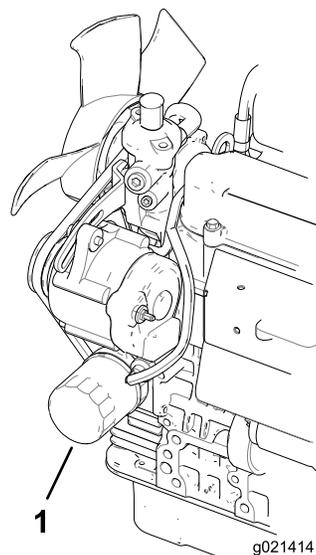

Figure 49
2. Remove the oil filter (Figure 49). Apply a light coat of clean oil to the new filter seal before installing the filter. **Do not overtighten.**